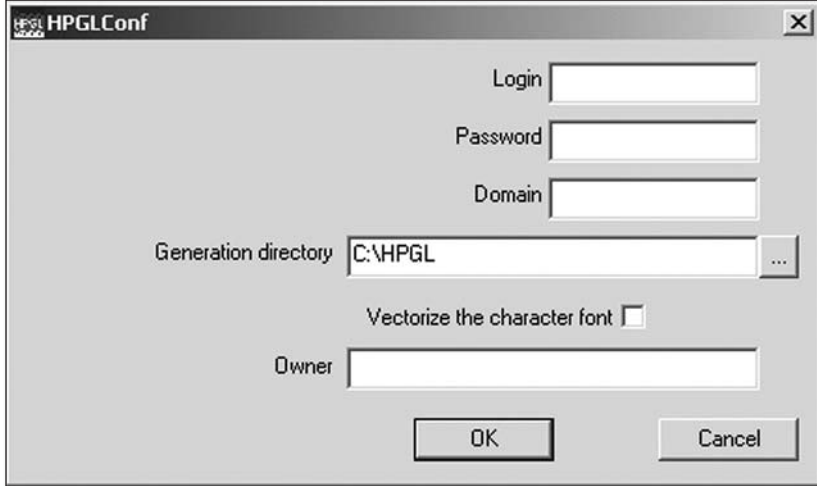

Figure 17. A Generation Directory where FlexPlot will find the files.
5. Choose a **Generation Directory** (the default location where marker files are stored by the program). You will setup **FlexPlot** to look in this location later. If the folder is located on a network, you may have to provide login information. Also remember to *uncheck* the *Vectorize the Character Font* box. (*Figure 17*).